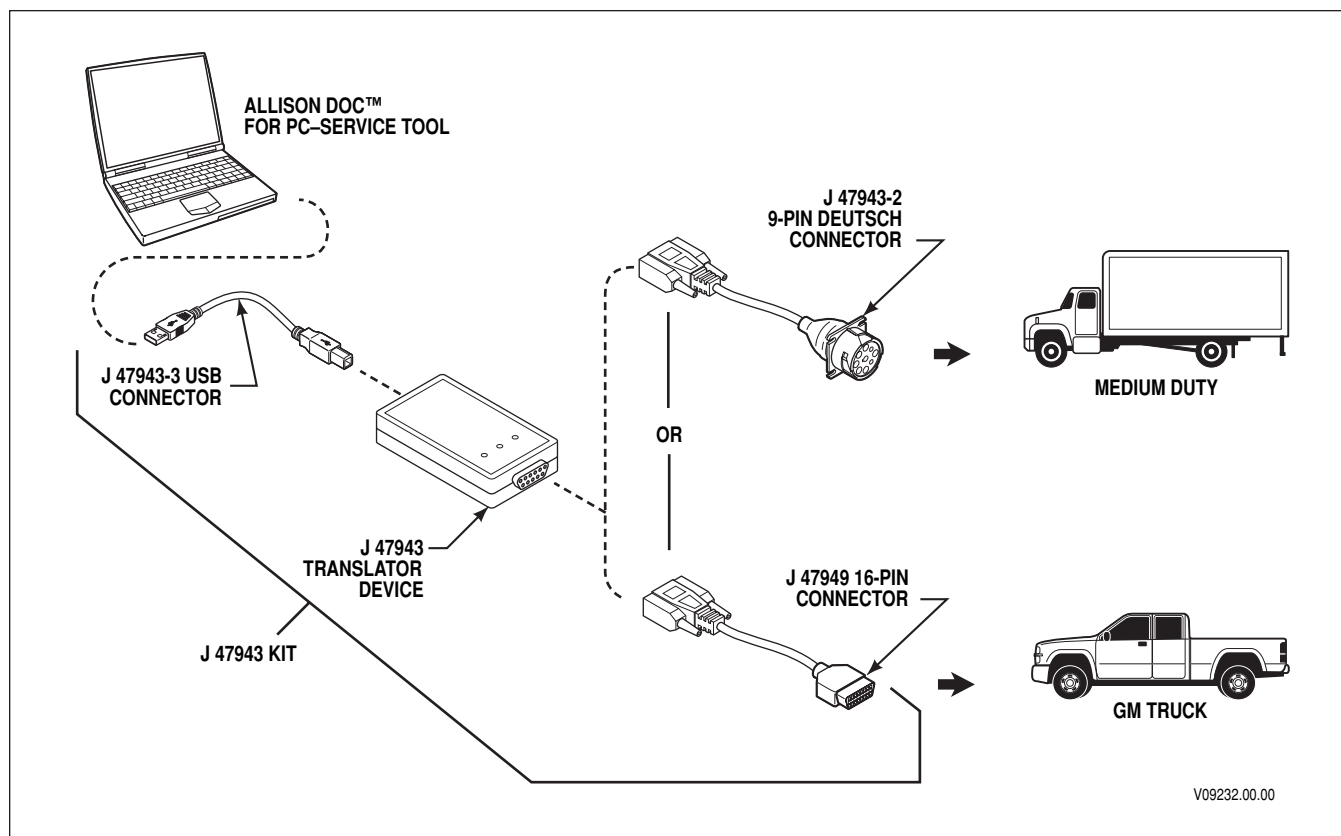

Figure 3–1. Proper Allison DOC™ For PC-Service Tool Connections
- The proper connections exist for communicating with Allison DOC™ For PC–Service Tool (Figure 3–1 and Figure 3–2).
For “TCM/Load Box” setup (no connection to vehicle) use the J 47276 “T” Breakout and TCM Reflashing Harness. This harness is required for bench-type reflashing of Allison 4th Generation Controls TCMs. Use one of the following methods for TCM reflashing (Figure 3–2).